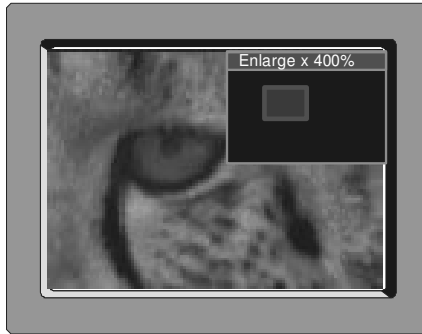

Figure 24: OSD Enlarge Status
3 A small rectangle inside a transparent pop-up OSD Enlarge status box appears at the top right corner of the screen showing the position of the zoom within a picture (see Figure 24)
The zoom ratio and the zoom position are illustrated by a small rectangle inside a transparent pop-up OSD Enlarge status box that appears at the top right corner of the screen, as the example in Figure 24 illustrates:
- Using the Zoom + and/or the Zoom - control keys¹ on the infra-red remote control transmitter (see Figure 14). The pop-up OSD Enlarge status box continuously displays the zoom ratio and position, as Figure 24 illustrates